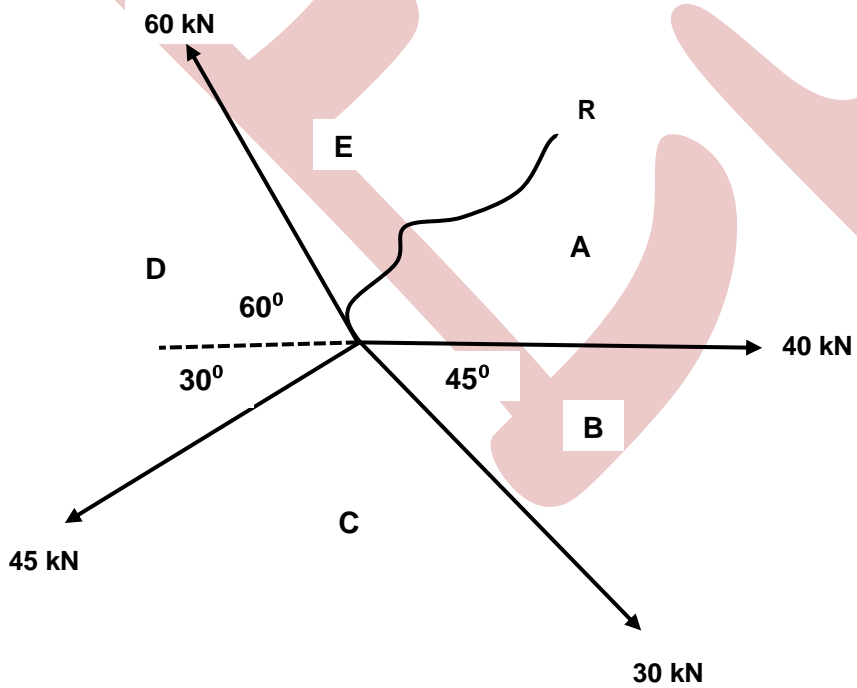

FIGURE 4
5.2 Calculate the magnitude and direction of the resultant force as indicated in FIGURE 4, DIAGRAM SHEET 2 (attached) by adding the components of the given forces. Neatly tabulate the required data.